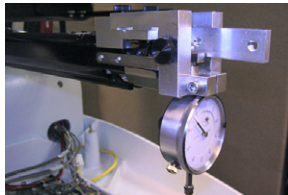

Figure 4 - Dial Indicator Installed on Needle Plate Bracket
13. Install the dial indicator (PN: 32453-01) with the adaptor (PN: 33065) on the lower arm extrusion as shown in Figure 4. Tighten the screws enough to hold the fixture securely.
15. With the indicator plunger in full contact with the needle, hang the 3 lb weight from the needle clamp as shown in Figure 4 above. Be sure its path is unrestricted and not touching the plunger.